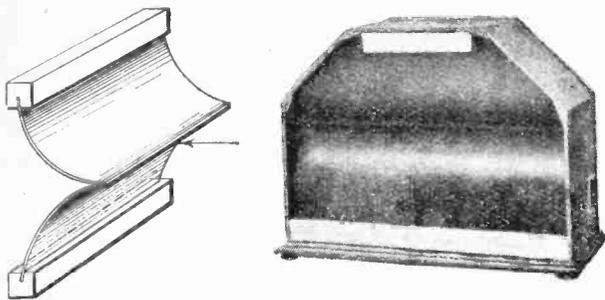

Fig. 3.—Principle of the "Arcophone" loud-speaker exhibited by Messrs. Siemens-Halske.
**Fig. 3.**—A, method of fixing grid bias batteries to back of cabinet; B, the valve holder supports; C, base of aerial-grid transformer; D, base of intervalve transformer; E, ebonite strip carrying aerial and earth sockets, A, 11/32" diameter; two fixing holes tapped 6BA; F, ebonite spacers for H.F. intervalve transformer; G, ebonite spacers for aerial-grid transformer.
On the baseboard is mounted the fixed condenser, grid leak, and valve-holders; the valve-holders are raised about 1½in. by ebonite rods (B, Fig. 3), although a support of wood would do equally well. At one end is the aerial and earth connection strip; this is made of ebonite (E, Fig. 3), and has four sockets. A portion is filed away as indicated in the sketch to clear the bracket. This strip is clearly shown in the illustration on page 593.
The primary windings are wound over and at one end of the secondary coil and are spaced by pieces of ebonite; for the aerial coil 8 ebonite spacers 1½in. long by ¼in. wide by ¼in. thick are required, and one spacer has four small screws fitted, as in drawing G, Fig. 3. The primary winding, which is wound in the same direction as the secondary and not in the opposite direction, as accidentally shown in the sketch of the aerial coil of Fig. 2, has 16 turns of No. 30 D.S.C., with taps at the
The H.F. transformer has a double winding of No. 40 D.S.C., the turns in each winding being spaced. Eight spaces are required, and three of them have small screws fitted, as shown at F Fig. 3, and the sketch of Fig. 2. Hold the spacers in position with rubber bands as before, and start winding the primary coil from connection "+ H.T." (opposite the end of the secondary). This winding is wound in the same direction as the secondary, and has 15 turns spaced about 15 to the inch. Finish this coil at the tag marked "plate."
The second fine wire winding is connected at the screw marked "NC," and the wire is wound in the space between the turns of the first winding; it is terminated at the tag marked "+ H.T." Do not forget to connect the two + H.T. tags. Having wound the coils, fit them to their bases, that for the aerial coil being sketched at C, Fig. 3, and for the H.F. transformer at D, Fig. 3.
phone," was exhibited by Messrs. Siemens-Halske. This consists essentially of two curved soundboards of a material known as "Pertinax," secured at the outer edges and stiffly sewn together to form a ridge, as indicated in Fig. 3. Vibrations are imparted to the soundboard in the direction of the arrow.